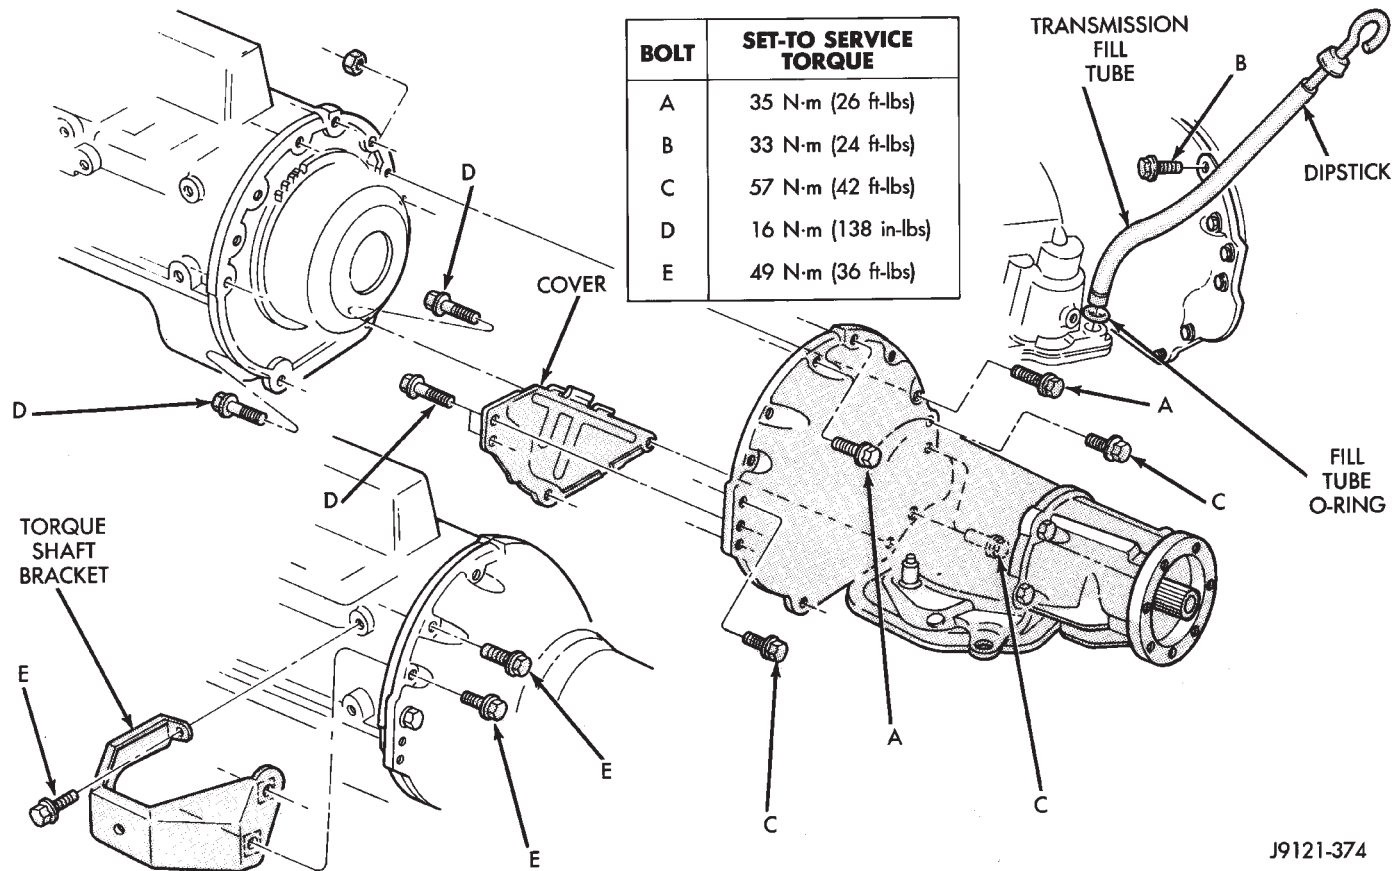

Fig. 8 Transmission Attachment
- (2) Temporarily secure converter with C-clamp or metal strap attached across converter housing.
- (3) Position transmission on jack and secure it with safety chains.
- (4) Raise transmission and align converter with drive plate.
(5) Move transmission forward. Then raise, lower or tilt transmission to align converter housing with engine block dowels.
(6) Install two transmission attaching bolts. Tighten bolts just enough to hold transmission converter housing in place on block.
(7) Install torque converter attaching bolts. Tighten bolts to following torque.
(8) Install and tighten remaining bolts that attach transmission converter housing to engine block (Fig. 8).